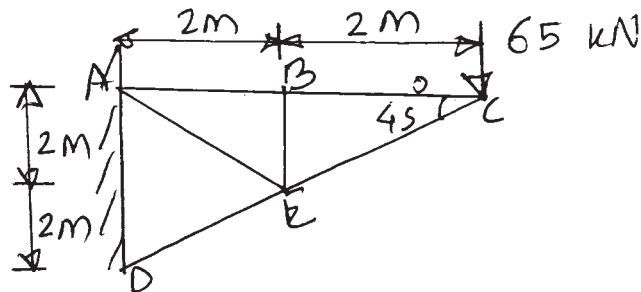

Fig. No. 9
- c) Calculate magnitude and state nature of forces in members AB and AE and DE only by using method of sections for a truss as shown in Fig. No. 9.